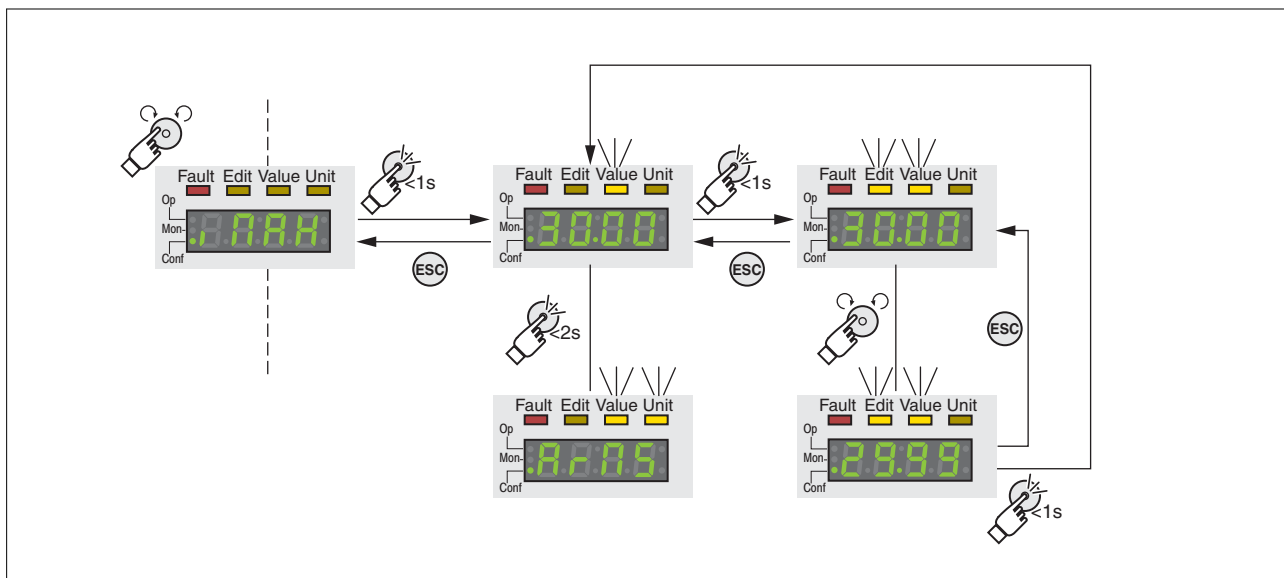

Figure 39: Integrated HMI, example of setting a parameter
- The parameter i_{Max} (iMax) is shown on the 7-segment display, see Figure 39.